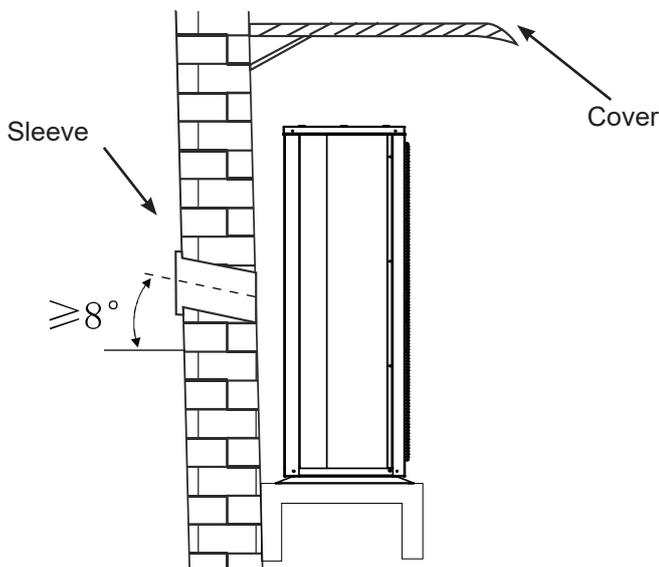

Figure 5-6 - Example of outdoor installation
- ☞ Install a cover on the appliance to prevent snow from occluding the air intake and air outlet (Figure 5-6).
- ☞ Drill holes for connecting the slightly inclined pipes ($> 8^\circ$) to prevent rainwater from entering (Figure 5-6).
- ☞ Install the appliance in a place protected from the rain (Figure 5-6).